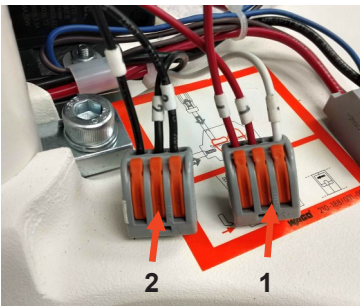
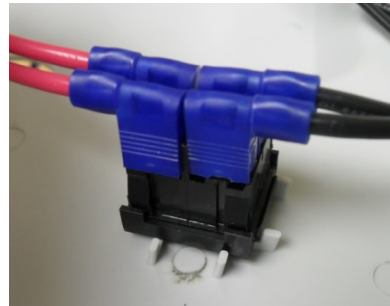

Figure 12A: Green Indicator light connections.
Figure 12B: Proper orientation of foot switch.
- Reconnect wires from Green Indicator switch (I) to its corresponding connectors. Connect RED wire labeled "1" to three port connector labeled "1". Then connect BLACK wire labeled "2" to three port connector labeled "2", refer to Figure 12A. Re-install the pushbutton switch into the underside of the base cover and secure it using the electrical switch nut. Ensure proper orientation of the bottom of the switch into the tabs as shown in Figure 12B.